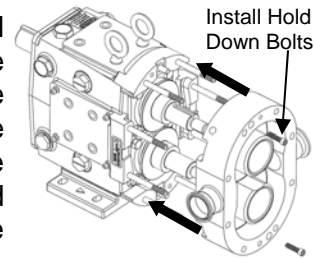

Figure 51: Installing Pump Body
1) Make sure all seal components are installed by following “Seal Assembly” instruction provided on page 26. Ensure all dowels are in place and that all parts including body, rotors, and rotor nuts are clean and free of foreign matter. Slowly slide the body over the gear case studs and shafts, ensuring the seals are kept in place and not damaged (Figure 51). Install the two hold down bolts and tighten the body against the gear case to ensure the dowels are engaged. Rotate the shafts to make sure there is no interference with the seals.